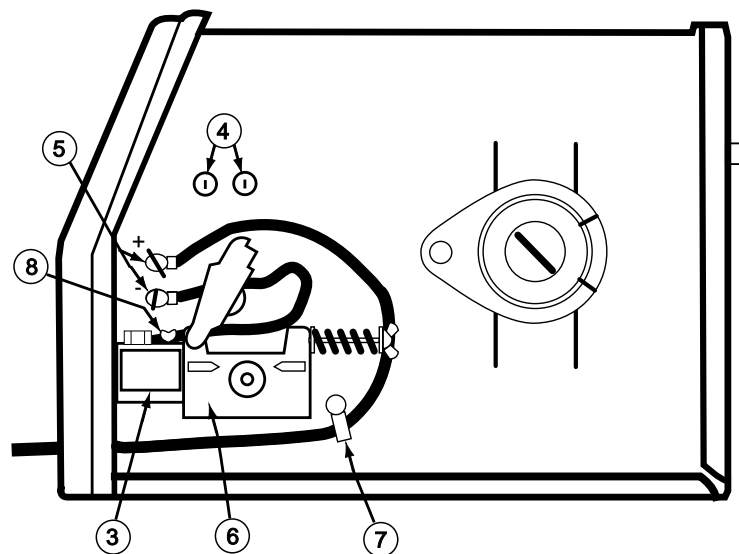

FIGURE A.2
Refer to Figure A.2.
2. Pass the end of the work cable that has the terminal lug with the smaller hole through the Work Cable Access Hole (1) in the case front.
3. Route the cable under the feedplate (6) and in front of the Wire Feed Motor.
4. **For Innershield Only:** Refer to Figure A.2. As delivered, the machine is connected for negative electrode polarity. This is the appropriate configuration for the Innershield process. To complete installation, use the provided wing nut to connect the work cable's terminal lug to the positive (+) output terminal (4) located above the Wire Feed Gearbox (5). Make sure that both wing nuts are tight.
1. Refer to Figures A.2 and A.4. Unplug the machine or turn power switch to the OFF "O" position.